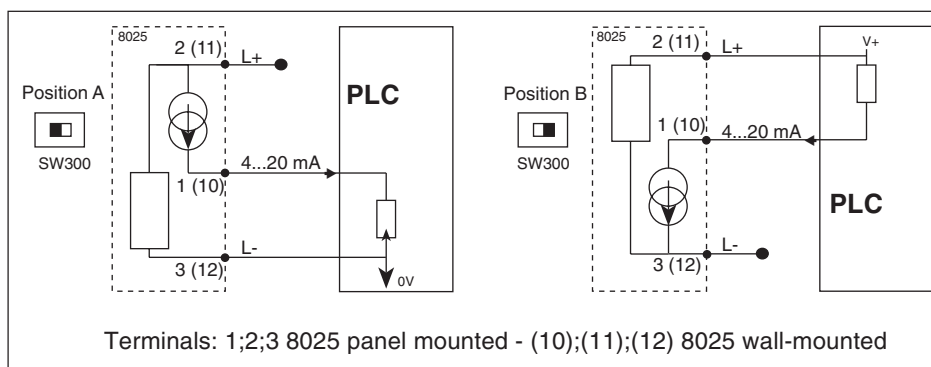

Fig. 3.4 Switch position for PLC connection and current output
**Note:** PLC-connection. Depending on the PLC-version, the switch **1** on the circuit board must be put to position A or B (see Fig. 3.4 and 3.6).
**Note:** PLC-connection, depending on the PLC-version, the switch **1** on the circuit board must be set in position A or B (see Fig. 3.4 and 10).